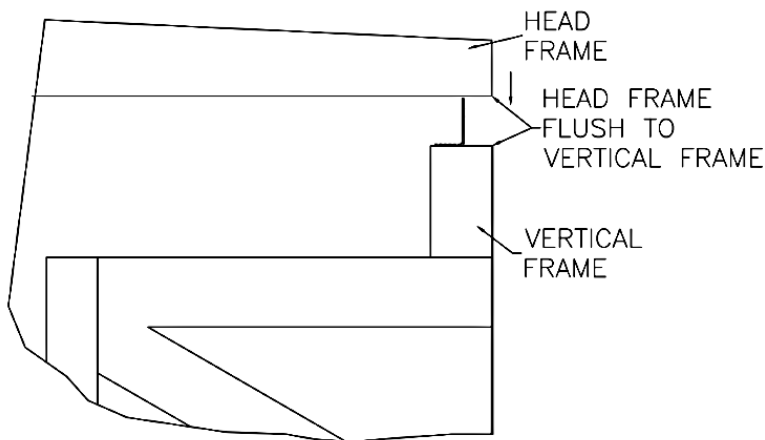

FIG. 8A
- Set Head Frame on outside of left and right Angle Brackets (Figure 8a).